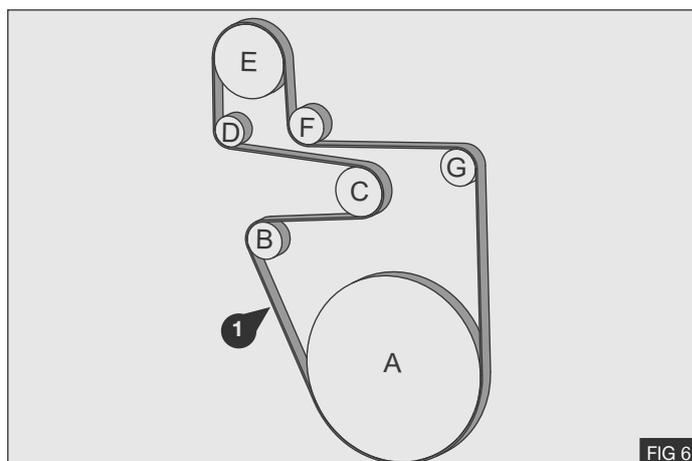

FIG 6
1. Fit the supplied poly groove drive belt (1) to the configuration shown - Fig 6.